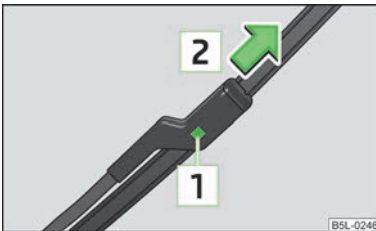

Fig. 37
- › Press the locking button  » Fig. 37 to unlock the wiper blade and pull off in the direction of the arrow .